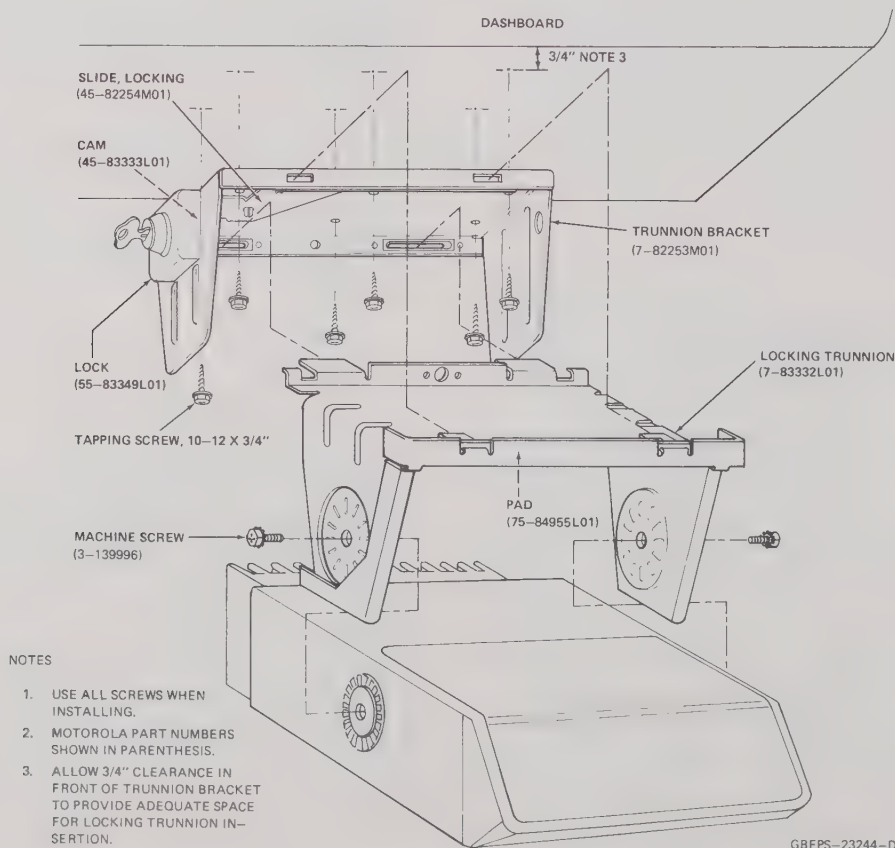

Figure 2
1.2 INSTALLATION (Refer to Figure 2)